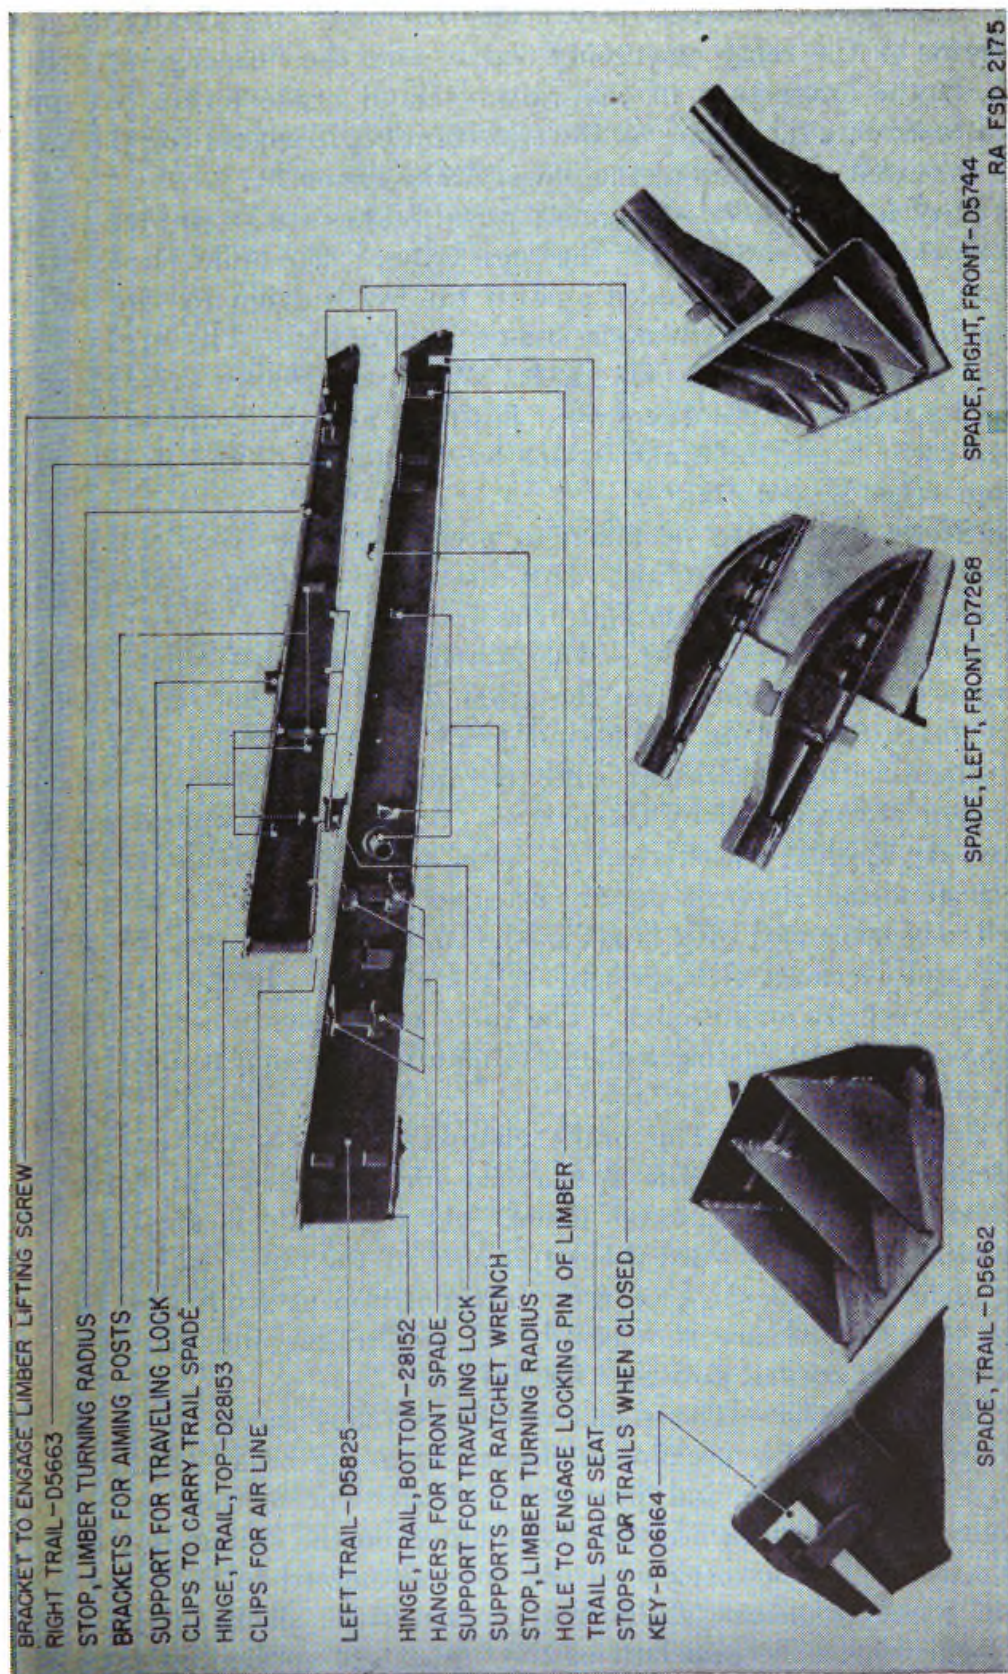

FIGURE 17.—Trails—outside view left trail; inside view right trail—and spades.
**16. Trails.**—The two fabricated steel trails are identical. The top and bottom members of the trails form the seats for the trail pins where they are attached to the bottom carriage. The trail pins are secured in position by threaded plugs. Fastenings for carrying the spades and accessories in travel position are provided (fig. 17).
*c. Operation of brakes.*—(1) Before starting the vehicle when connected to the gun, the air pressure must show at least 70 pounds on the dash gage of the prime mover in order that the brake system may be fully effective. Pressure should be checked from time to time when the vehicle is in operation and, should the air gage register a rapid drop in pressure, the brakes should be applied and held applied until the vehicle is brought to a full stop. A check of the air brake system should be made to determine the cause of this sudden drop in pressure.
(2) The emergency brake should never be used for parking purposes. Mechanical hand brakes are provided for this purpose.
(3) The best possible stop will be made when the first brake application is as hard as the speed of the vehicle and the condition of the road will permit, and then graduated off as the speed is reduced, so that at the end of the stop but little pressure remains in the brake chamber. Never apply the brakes lightly at first and increase the pressure as the speed diminishes. This would not only require more time but the final high pressure will produce a severe final stop.
(4) Do not “fan” the brake pedal, as this gives poor brake performance and wastes air pressure. “Fanning” does not increase the brake line pressure; rather it decreases both the air reservoir and brake line air pressure.
(5) The air brake is designed so that when the brake pedal is moved to the limit of the stroke, an emergency application results, which will stop the vehicle in the shortest possible time. The application should be made only in an emergency and not employed as ordinary braking service.
(6) In making a stop or in slowing down from any speed above the idling speed of the engine, allow the engine to remain in gear with the throttle closed to get the full benefit of its retarding effect, disengaging the clutch when the idling speed is reached. Ample braking power is available in the air system. However, by drifting and utilizing the retarding effect of the engine, the vehicle may be slowed down successfully without use of the brakes.
(7) In the event of a break between the prime mover and the carriage, keep the brakes applied on the prime mover until a stop is made. Hold the prime mover by means of the hand brake and close the cut-out cocks in the service and emergency lines to prevent further loss of air. After repairs on recouplings are made, open the cut-out cock and the brake system will automatically recharge. If it is necessary to move the carriage before recoupling the air connection, the reservoir drain cock must be opened to release the air brake on the bogie.
*e. To change from traveling to firing position.*—(1) Shut off the air at the prime mover, disconnect the air hose at the prime mover and the spade end of the trail, lock the ends of the hose together at the front and rear end of the limber, and place the dummy couplings on the ends of the air tubes on the trail (figs. 17 to 22, inclusive).